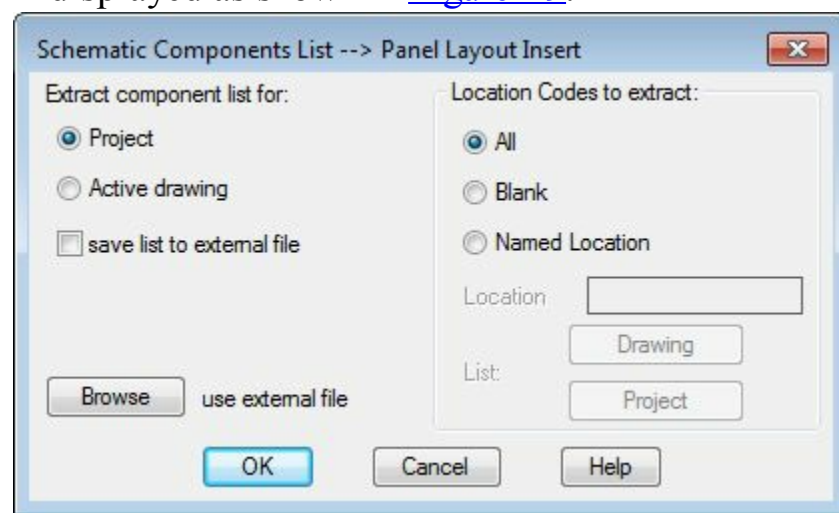

Figure-29. Schematic Components List dialog box
- Click on the **Schematic List** button from the **Insert Component Footprints** drop-down in the **Insert Component Footprints** panel in the **Ribbon**. The **Schematic Components List** dialog box will be displayed as shown in Figure-29.